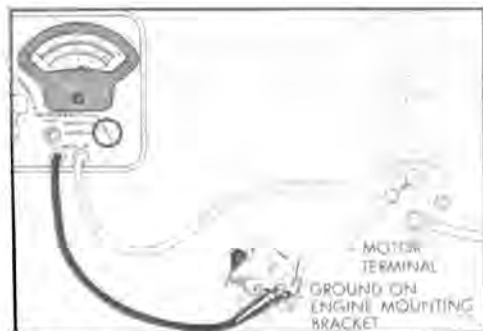

Figure 68-24--Cranking Voltage Test Connections
3. Connect voltmeter positive (+) lead to the motor terminal on solenoid switch; connect voltmeter negative (-) lead to ground. See Figure 68-24.